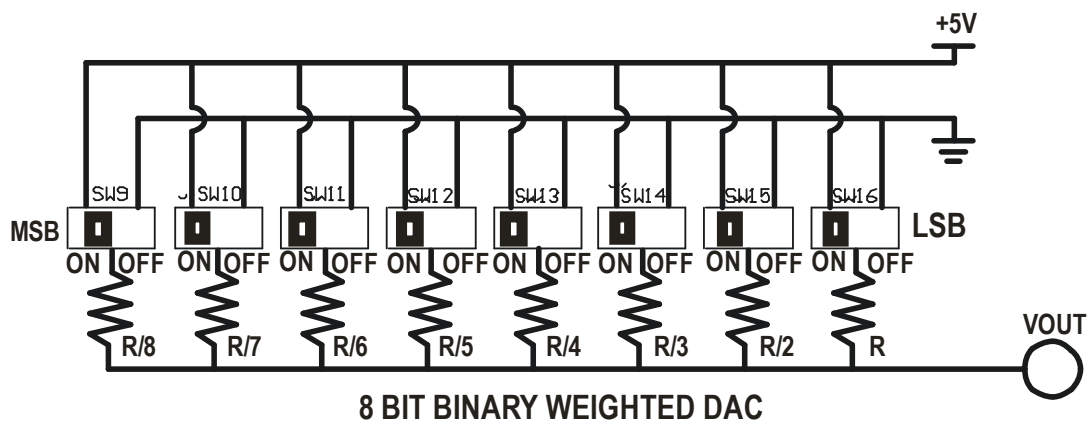

FIGURE-1.1
- Give the desired logic input to the 8 BIT BINARY WEIGHTED DAC from on board slider switches as shown below in FIGURE-1.1